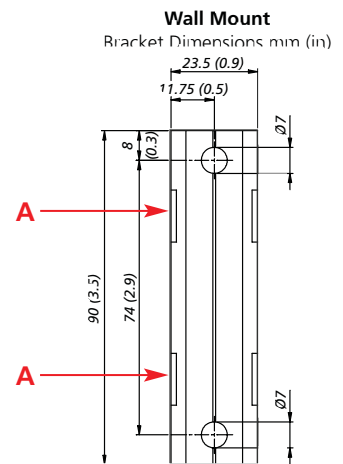

Figure 2
2. Attach the bracket on the wall by means of two screws. See Figure 2.